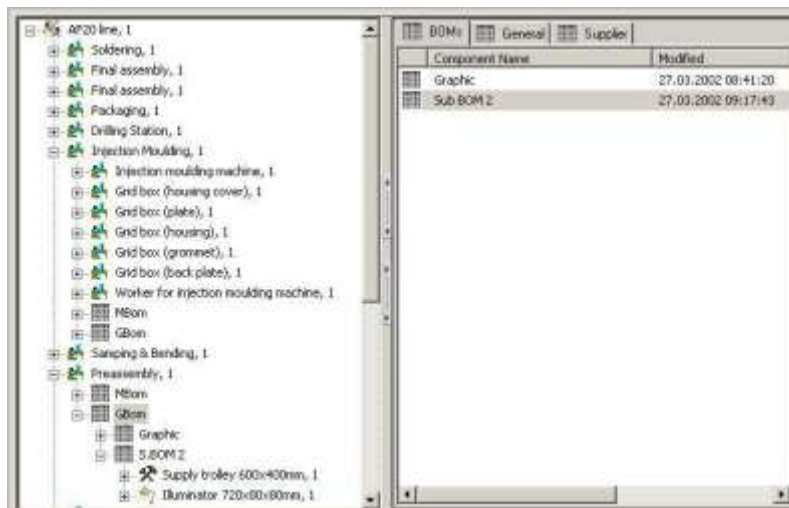

Figure 82: New Graphic Group: Displayed in the Bill of Materials
- 4) Confirm the entries with **OK**. The result will be shown in the structure: *Please refer to the Figure 82.*
Graphic groups are always displayed under **Graphic groups** in the structure. It is also possible to delete graphic groups there. *Please refer to the Figure 82.*